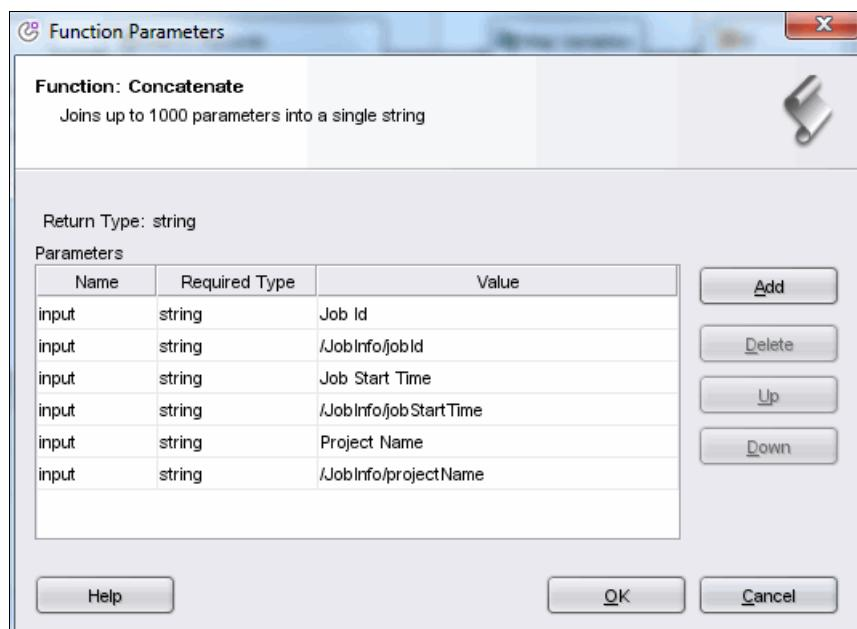

Figure 11-42 Completed Concatenate configuration
12. In the Functions Parameter dialog box, complete these steps (refer to Figure 11-42):